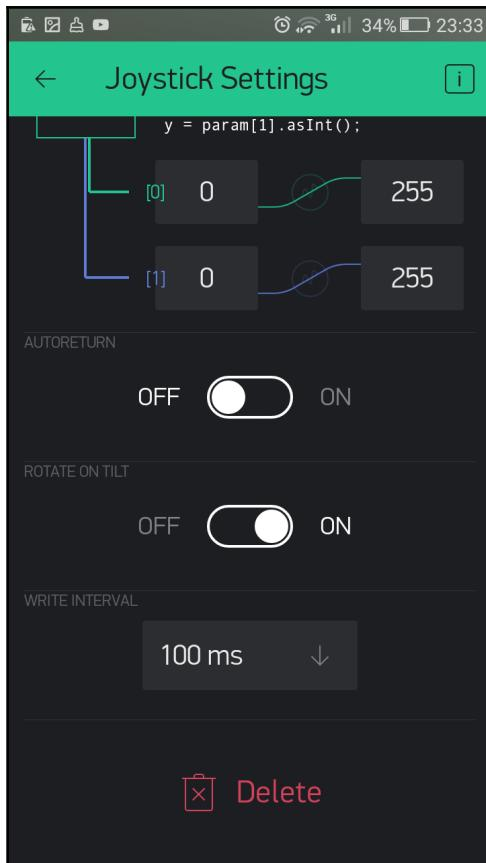

Figure 4.8: Setting AUTORETURN and ROTATE ON TILT
- **ROTATE ON TILT** should be **ON** for the joystick to automatically rotate if you use your smartphone in landscape orientation (*Figure 4.8*).
- **AUTORETURN** should be **OFF**. When it is **ON**, the joystick handle will return to its center position after you release it. When it is **OFF**, it will stay where you left it (*Figure 4.8*):